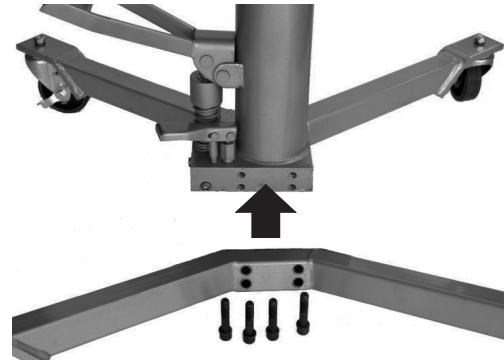

Figure 2
2. Assemble the legs (with the casters) to the jack's base, and finger tighten the Allen socket bolts and lock washers provided. See Figure 2.